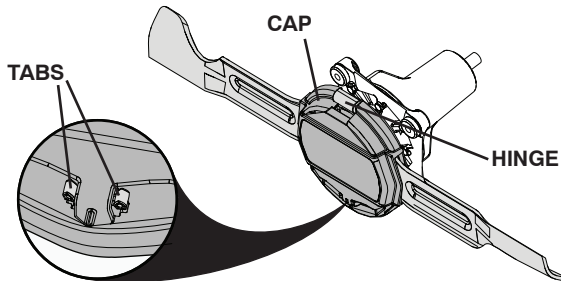

Fig. 28
BLADE REPLACEMENT (See Figs. 28 - 33)
- Squeeze tabs inward to release cap. Remove by lifting cap from hinge and set aside. (See Fig. 28.)